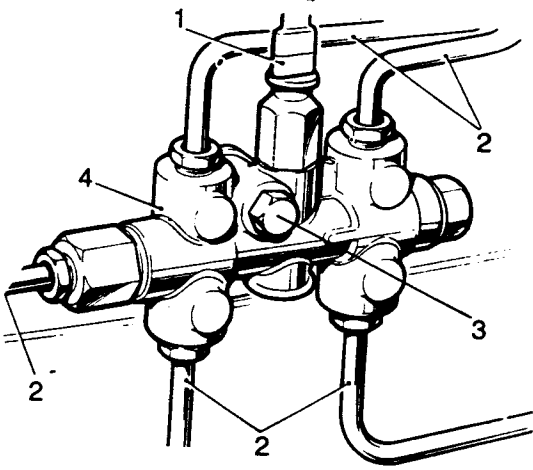

Fig K1.4
- (1) Refer to Fig K1.4. Disconnect the electrical leads (1) from the brake failure switch (4), located in the engine compartment at the chassis RH side member.
- (2) Disconnect and blank off the five fluid pipes (2).
- (3) Remove the central retaining bolt (3).
- (4) Remove the brake failure switch (4).